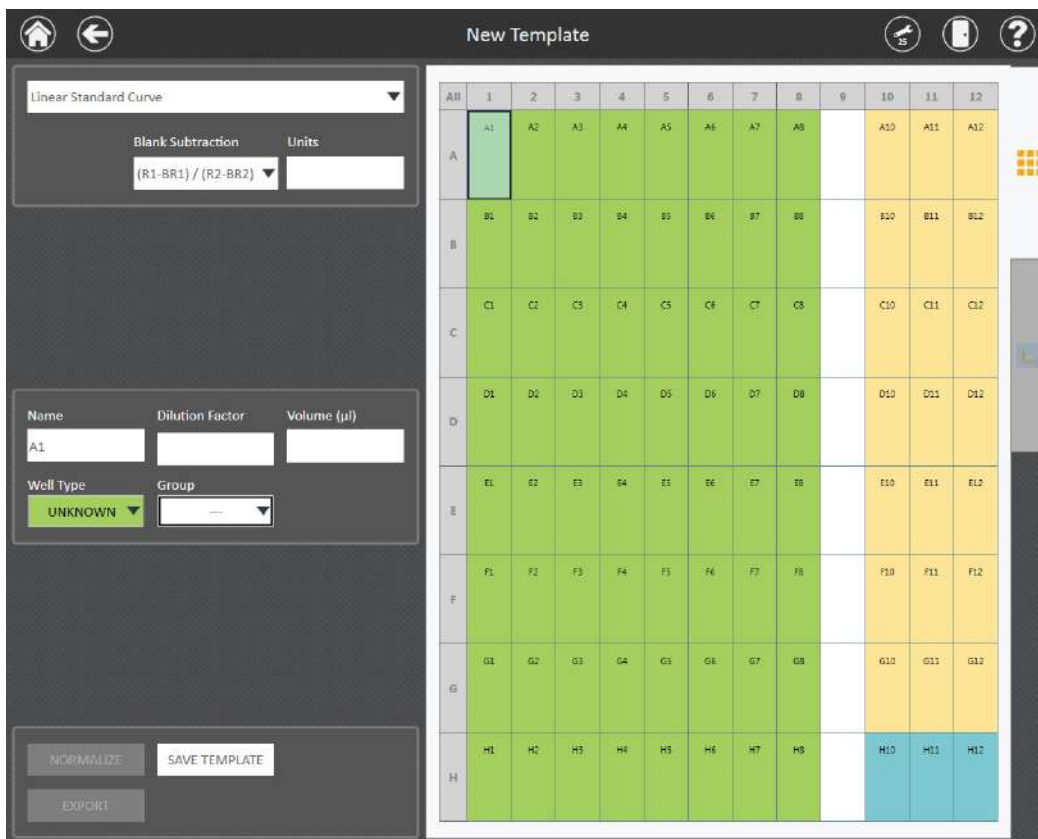

Figure 67. Template with well designations assigned. In this figure unknown, known and blank well designations have been assigned across a plate.
7. Touch and drag to select wells on the plate map that will contain samples of a given type. From the Well Type drop-down box select the corresponding well type (**Unknown, Known, Blank, Control**) that you wish to assign to those wells (Figure 67). For any Unknown wells, the user also may enter a sample volume. To select nonadjacent wells, touch a well and hold down until a rectangle appears, and continue with selection.